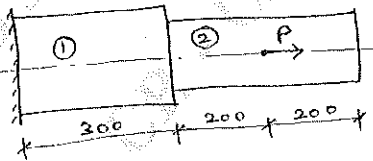

Fig. Q4 (a)
- b. A plane truss shown in Fig. Q4 (b), determine nodal displacements, stresses in each element and reaction at supports. (08 Marks)